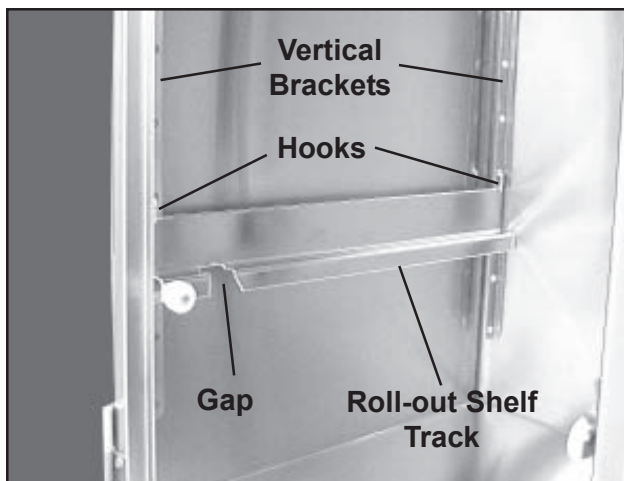

Figure 12. Roll-out Shelf Track and Vertical Brackets
3. Hook both roll-out shelf tracks to the front and rear vertical brackets at the desired level (Figure 12). **Note:** Make sure that the gaps in the roll-out shelf tracks are to the front.